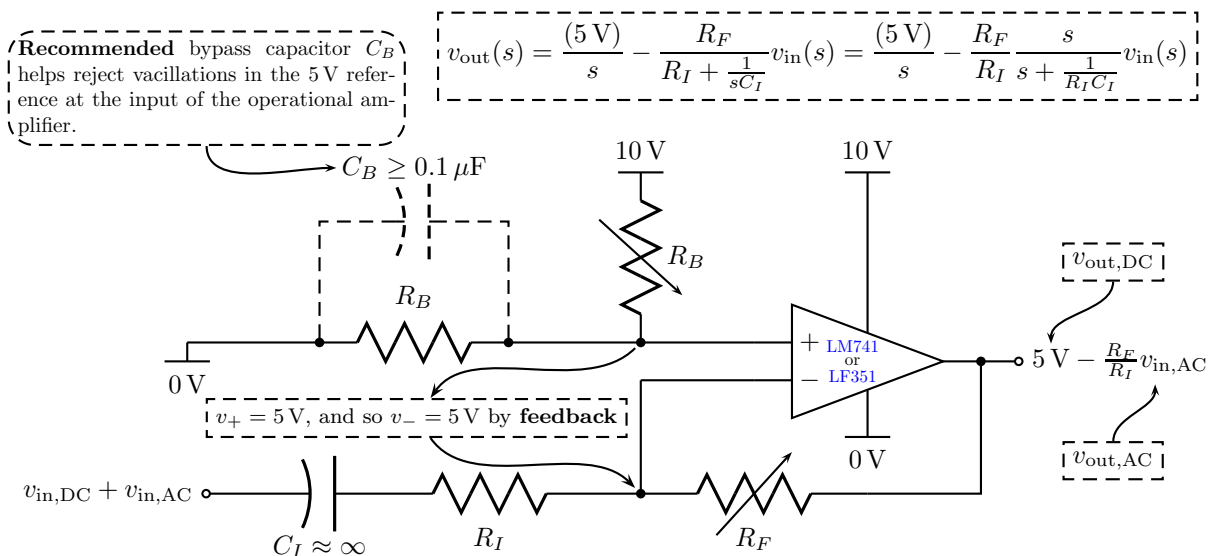

Figure 2.1: Single-ended level-shifter amplifier implemented with operational amplifier.
In the configuration in Figure 2.1, an LM741 OA is recommended, but an LF351 may be used instead.
**Polarized capacitors:** In our lab, large capacitors are only available as polarized electrolytic capacitors. Keep capacitors small so that polarized capacitors are not needed, and **use small capacitors in parallel** to implement large capacitances. If you *need* a polarized capacitor, **it must be wired so that its cathode** (i.e., the “negative” end of the capacitor, which is drawn as a curved line) sees a lower DC potential than its anode3. Because our input has negligible DC component and our shifted output has a 5 V DC component,  $C_I$  should be wired with its cathode (i.e., “negative” end) toward the input, as shown in Figure 2.1.